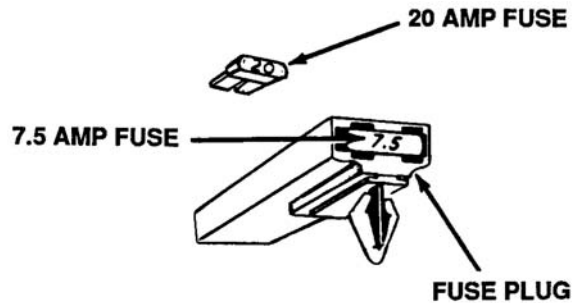

Figure 3-7. Fuse Holder.
- 3-2.2 600, 700 and 800 Series Only. The circuit breaker is being replaced by a standard automotive type fuse. Nonregulated electrical systems will use a 7-1/2 amp fuse. On regulated electrical systems, a 20 amp fuse will be used. This will not retrofit prior production units. See Figure 3-7.